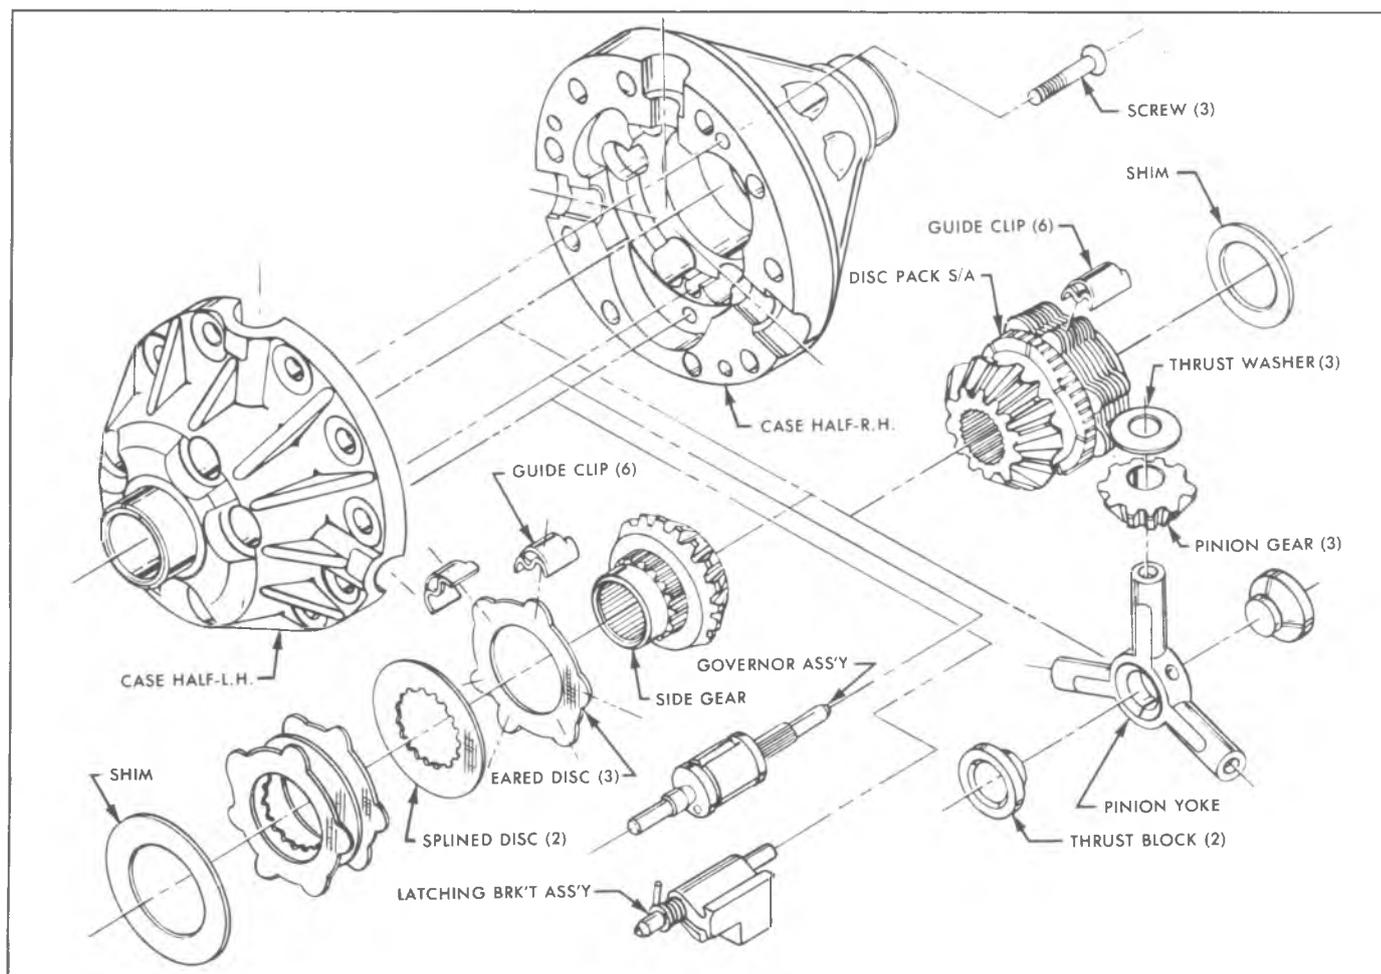

Fig. 4B-2H--3/4 Ton Unit
1. Note position of governor and latching bracket assembly, Figure 4B-4H. Remove ring gear and side bearings following procedures established for the standard differential.
2. Using bushing puller tool No. J-26252, remove governor assembly and latching bracket by pulling the retaining bushings as shown in Figure 4B-5H. Pull the